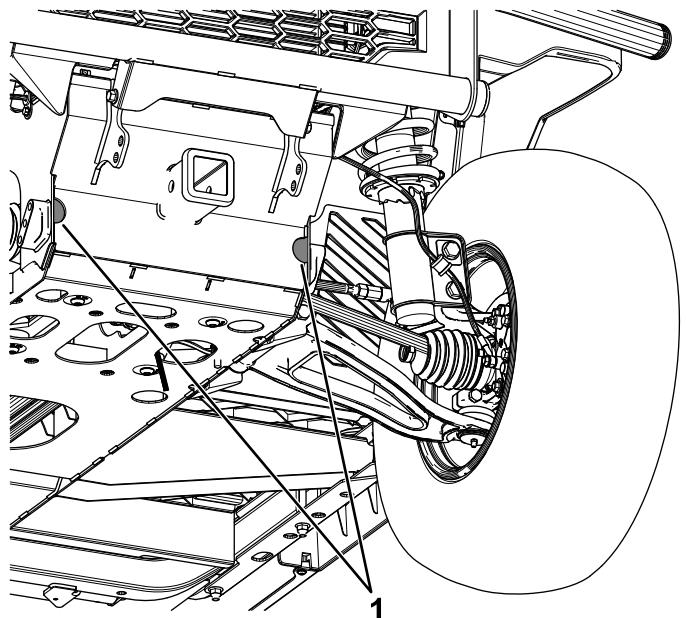
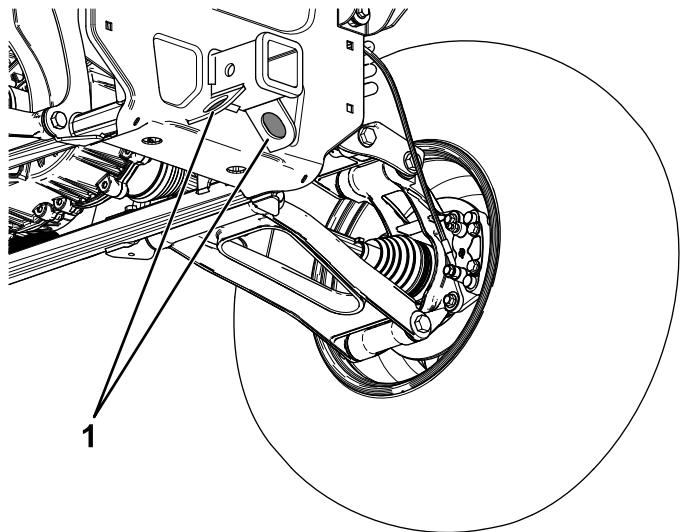

Figure 49
Figure 50
Refer to Figure 49 and Figure 50 for the tie-down locations on the machine.
1. Affix a tow line to the tongue at the front of the frame of the machine (Figure 49).